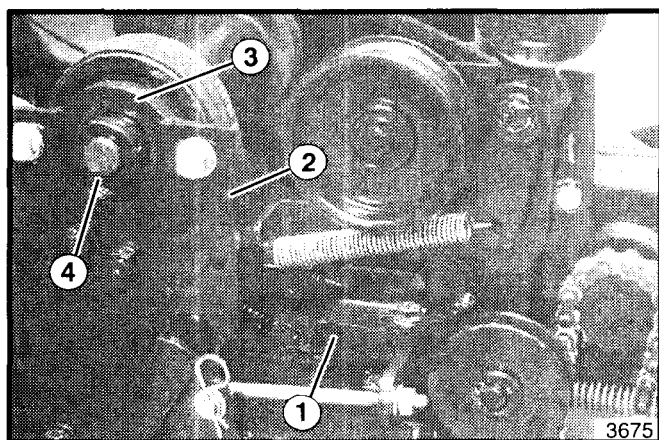

Figure 19. Belt Adjustment
3. Loosen the hardware securing the mounting plate (supporting the reel drive pulley) and the pillow block (see figure 19).